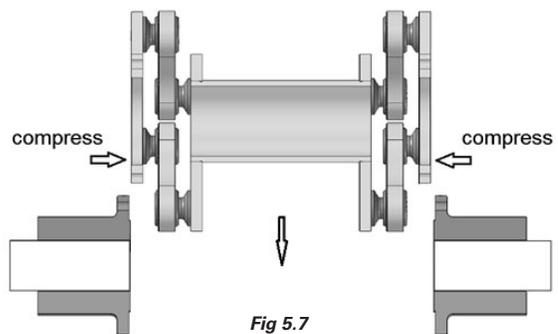

Fig 5.7
- Insert the assembly flange (5) links (2) and spacer (3) into its corresponding position by compressing the flange (2) + link pack the necessary to save the pilot diameter. (see Fig 5.7). Once in place, mount it by using the corresponding bolts and washers (4, 6)